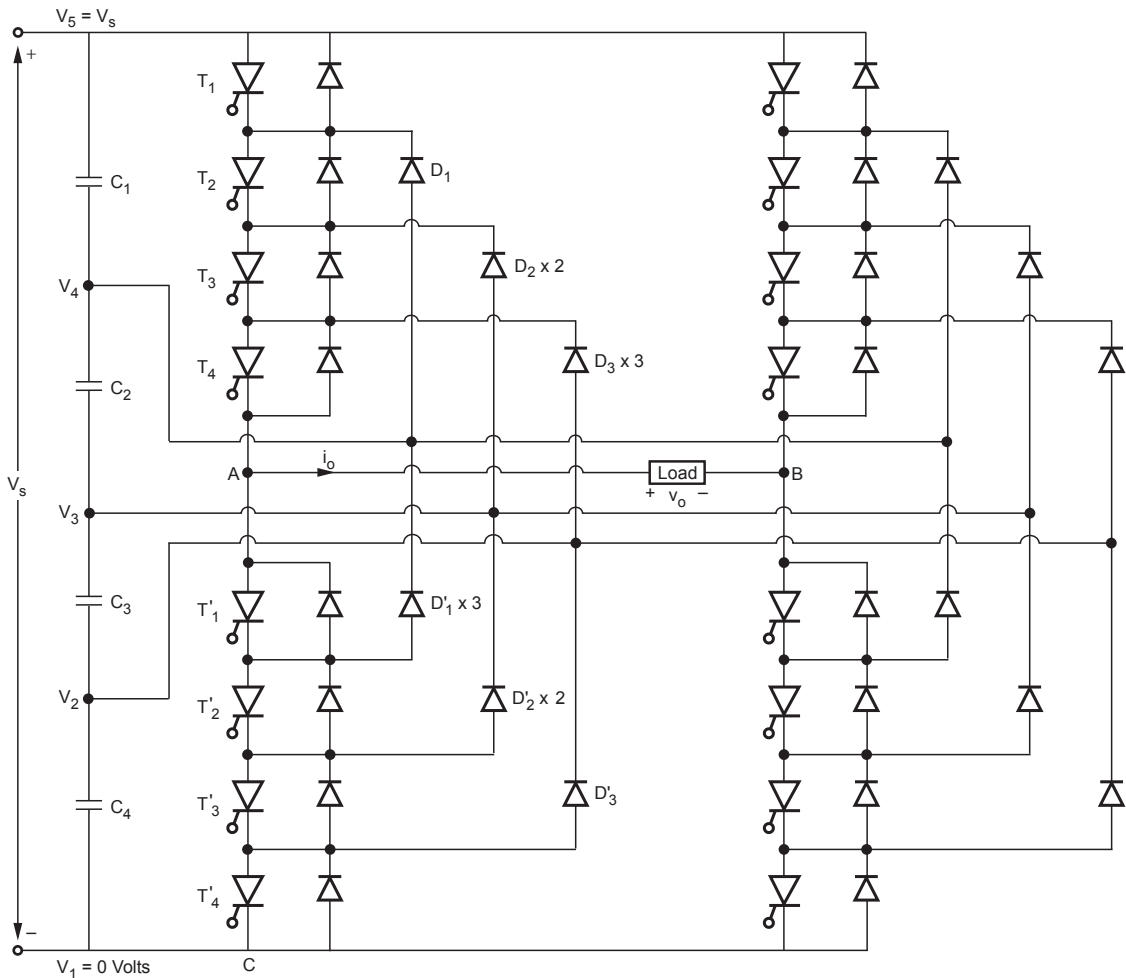

Fig. 3.7.3 5-level diode clamped multilevel inverter
- Fig. 3.7.3 shows the circuit diagram of 1 ϕ five level diode clamped multilevel inverter. In this circuits there are 4 capacitors C_1, C_2, C_3 and C_4 . Voltage across each capacitor is $\frac{V_s}{4}$ since all the capacitors have same value.